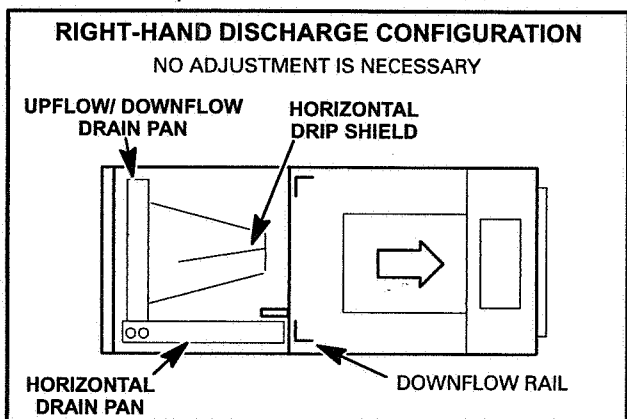

FIGURE 2
- 2 - No further adjustment is necessary. Set unit so that it is sloped 1/4 inch towards the drain pan end of the unit. See figure 2.